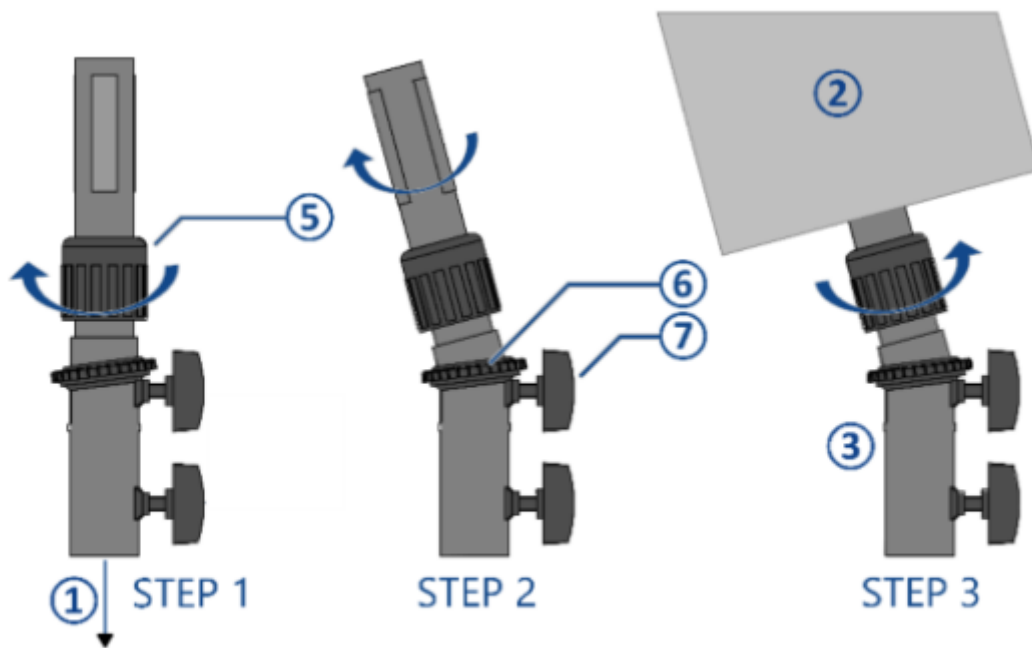

Figure 59. Tilt adapter.
2. Mount and aim the loudspeaker — Figure 59
- Set the adapter to about **5° downward** and tighten upper clamping screw ⑦. Turn lock ring ⑤ toward **OPEN**.
- Turn lock ring ⑤ toward **CLOSE** until secure, then aim according to the current CABR-2026 drawing.
□ View CO-160a Figure 59 — tilt/angle adapter